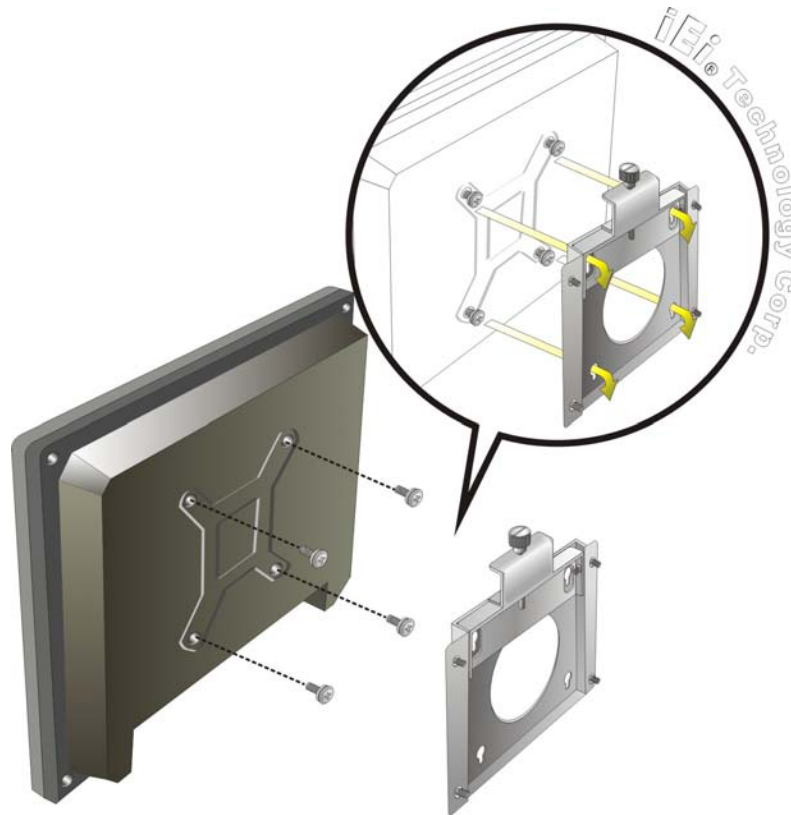

Figure 3-10: Chassis Support Screws
- Step 6:** Insert the four monitor mounting screws provided in the wall mounting kit into the four screw holes on the rear panel of the flat panel PC and tighten until the screw shank is secured against the rear panel (**Figure 3-10**).
Step 8: Carefully insert the screws through the holes and gently pull the monitor downwards until the monitor rests securely in the slotted holes (**Figure 3-10**). Ensure that all four of the mounting screws fit snugly into their respective slotted holes.